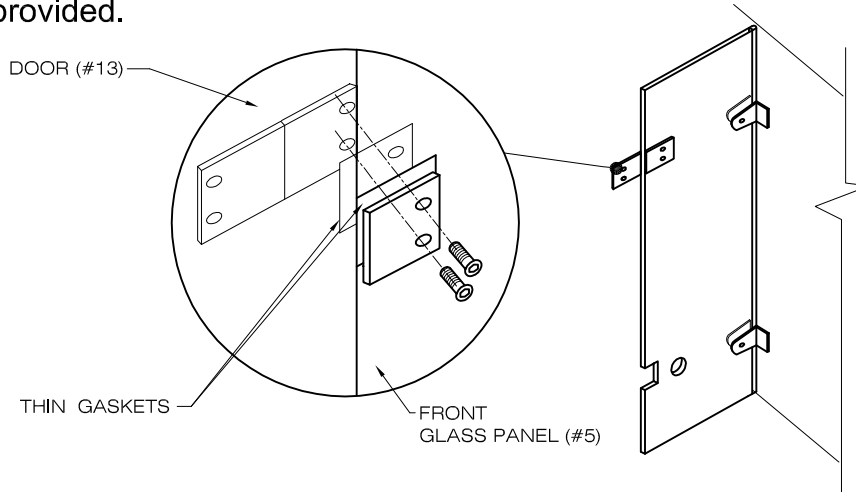

FIG.6 VIEW FROM INSIDE
2. Screw the glass hinge (#8) to the front panel (#5) with a washer on each side of the panel as shown. Use hex key. [SEE FIG.6]